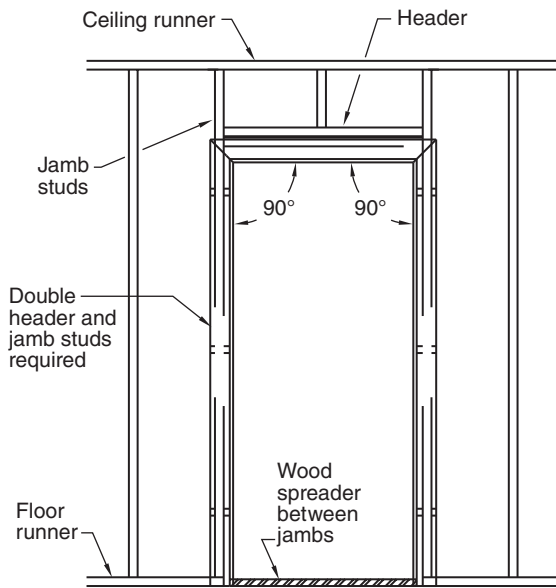

Figure 18 – Wood stud wall construction
- 9.4 Install wood spreaders (see Figure 18).
- 9.6 Install jamb studs (jack stud and king stud) butted tightly against anchors and properly positioned in frame throat for wallboard (see Figure 18).
room for attaching plaster lath or drywall and will not interfere with installation of hardware attached to frame head (see Figure 18).